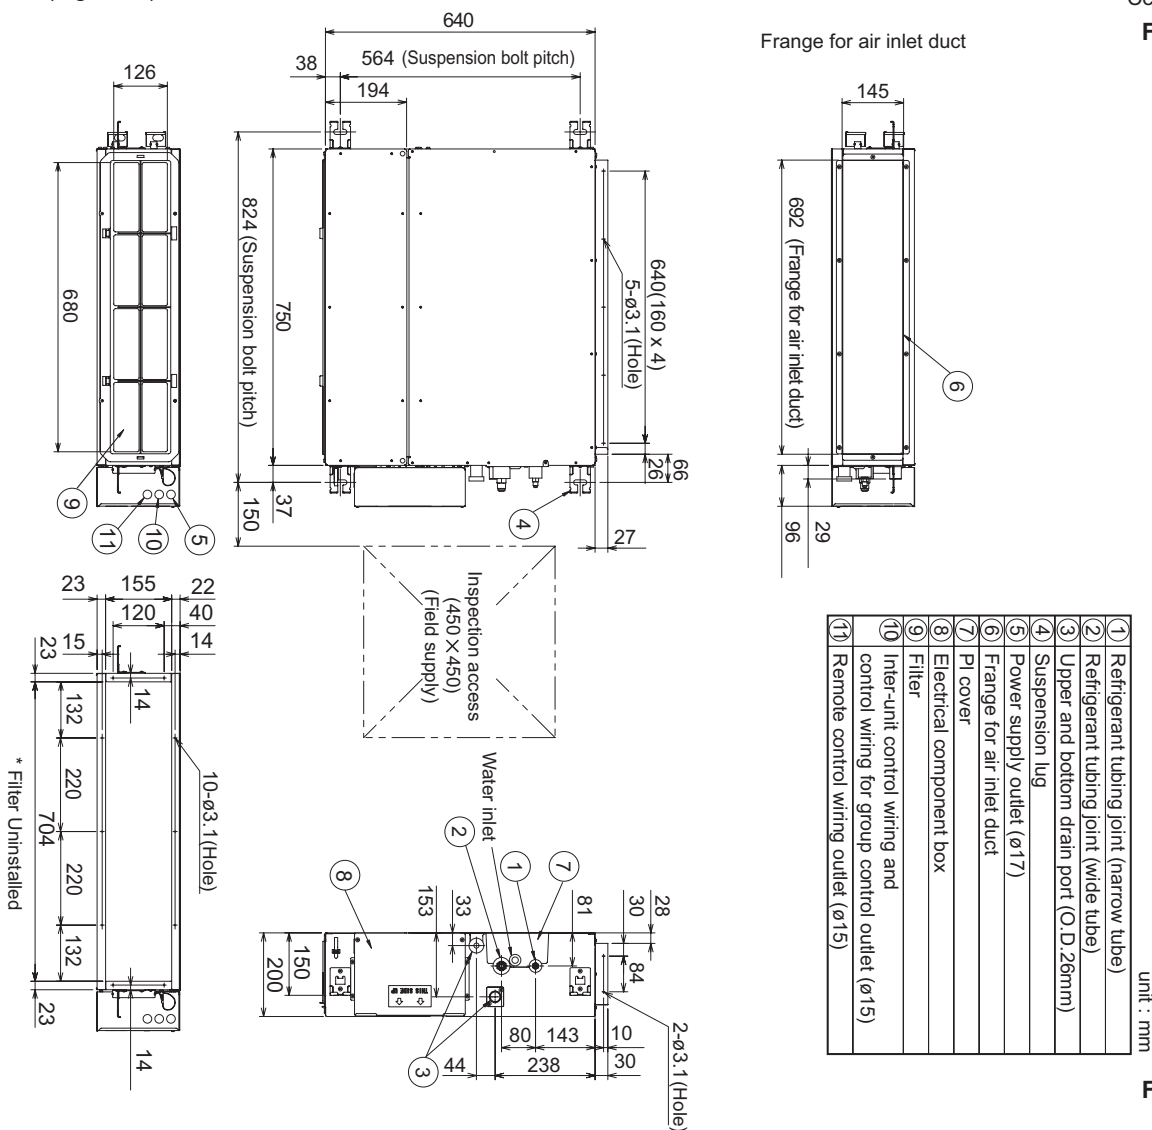

Fig. 2-95
- The diagram shows the detailed dimensions of the indoor unit. (Fig. 2-95)